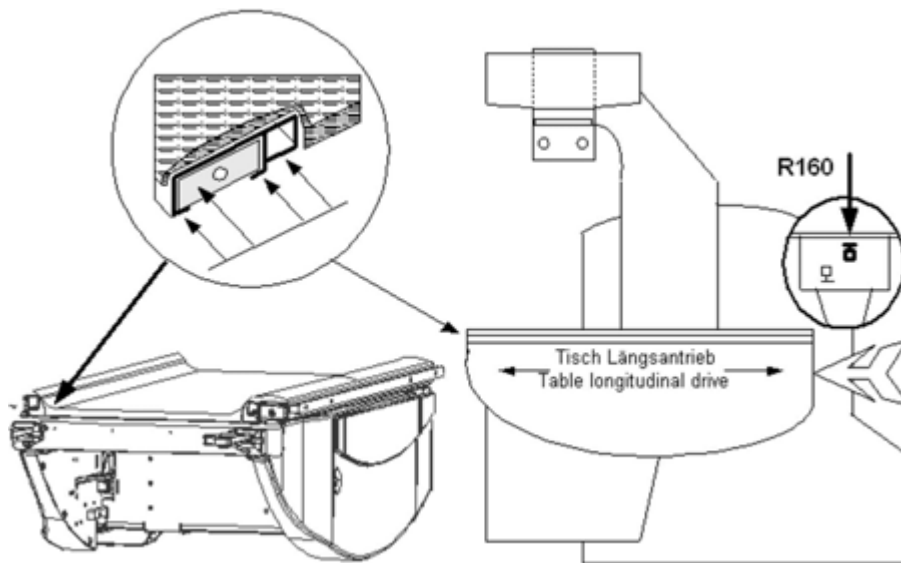

Fig. 36: Adjustment - tabletop longitudinal
- Use the service keys to move the tabletop longitudinal drive to the reference position at foot end (Fig. 36 / p. 60).
The reference position is the tabletop flush with frame (+/- 1 mm) at the foot end (Fig. 36 / p. 60).
Access: At table head end (see arrow (Fig. 36 / p. 60)).